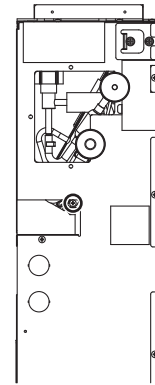

Fig.18
- (1) Remove the fixing screws on the heat exchanger (P) to remove it (Fig.18, 19).